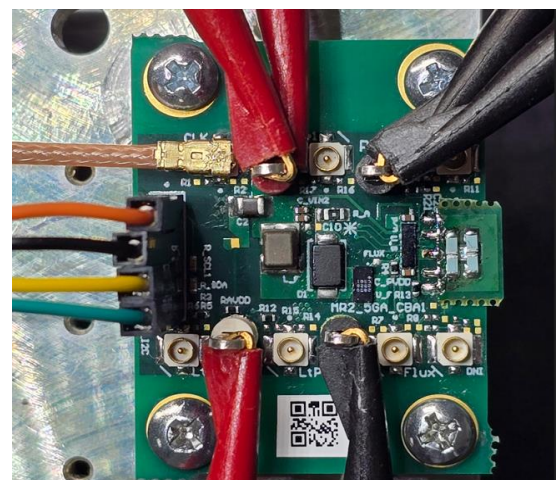

Fig.4 Example of the board connections for I2C programming and powering up (photo from a different EVB)
6. Please note, Fig.3 and Fig.4 are examples of a SL2002 EVB. Depending on the power level and load (laser vs resistor), the board you have received
5. A photo of a different EVB connections for I2C programming and powering up is shown in Fig. 4.